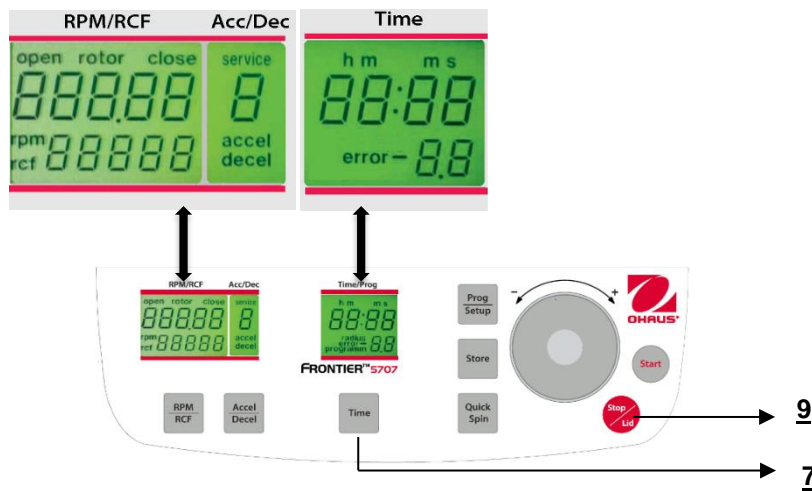

Figure. 27
While the centrifuge is turned off, press simultaneously the keys **"Time"** (7) and **"Stop/Lid"** (9) and turn on the main switch of the centrifuge. Now release both keys and as a result a display test is executed for approx. 5 seconds. All indicators will appear at the same time (See figure 27).